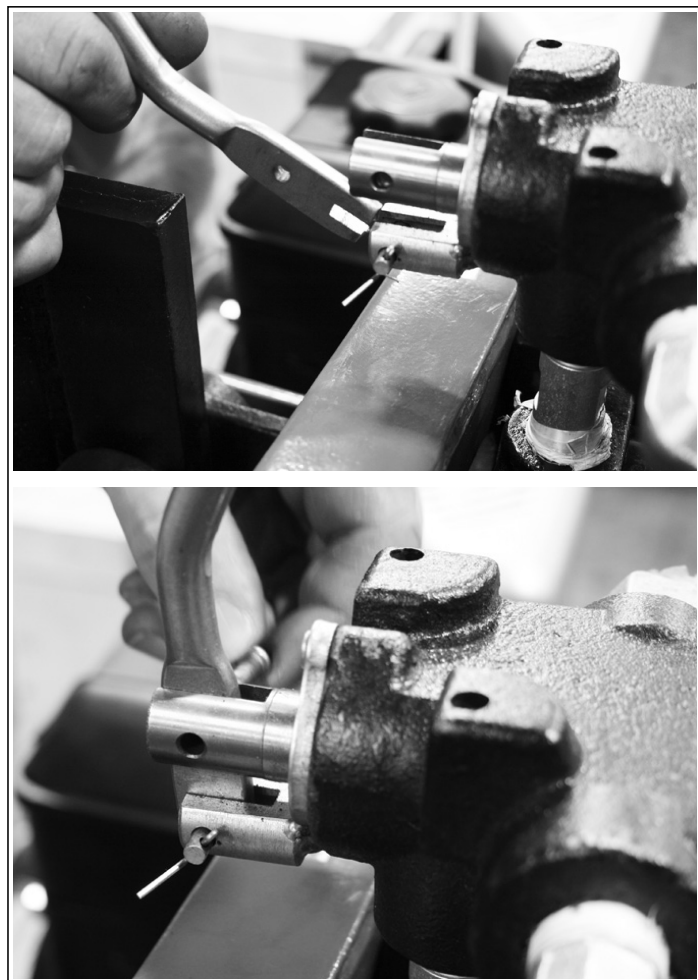

Figure 12
15. Attach the valve control handle by removing the upper pin from the valve. Position the groove on the bottom of the control handle over the lower pin on the valve. Then reinsert the upper pin through the holes in the valve and control handle. Secure the valve handle pins in place using the corresponding cotter pin. **SEE FIGURE 12.** Bend the end of the cotter pin to keep it from falling out.